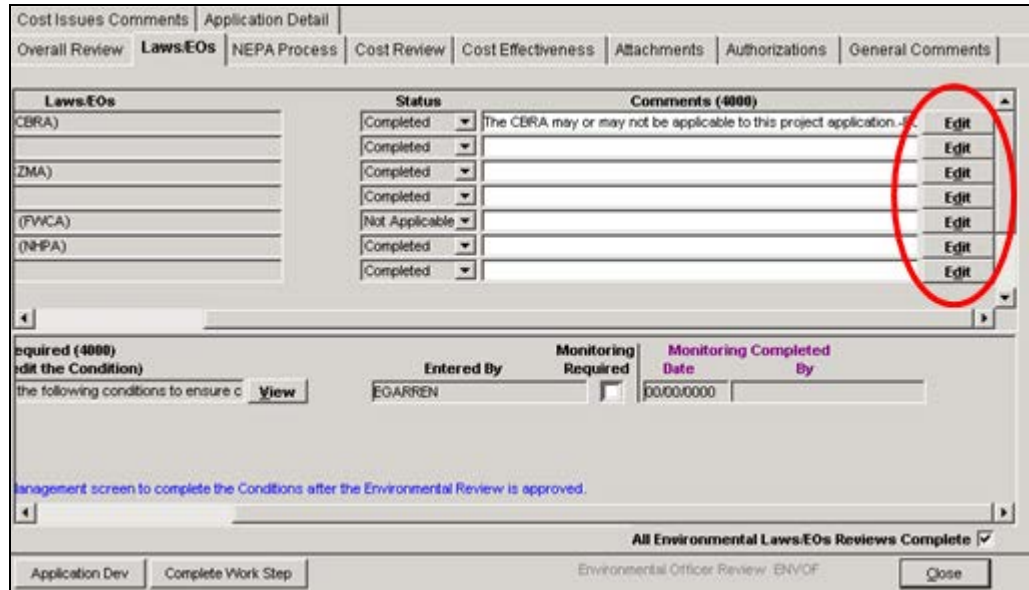

Figure 7-62: Laws/EOs Tab - Right Side
- b. The Comments box is displayed next to Status. To enter comments, click the EDIT button (Figure 7-62).